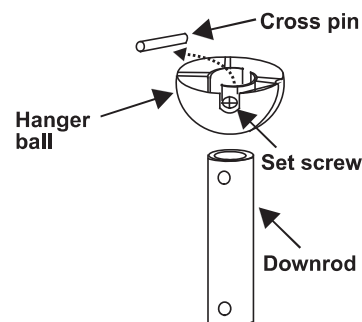

Figure 8
4. Remove hanger ball from down rod assembly by loosening set screws, removing the cross pin and sliding ball off rod. (Fig. 8)